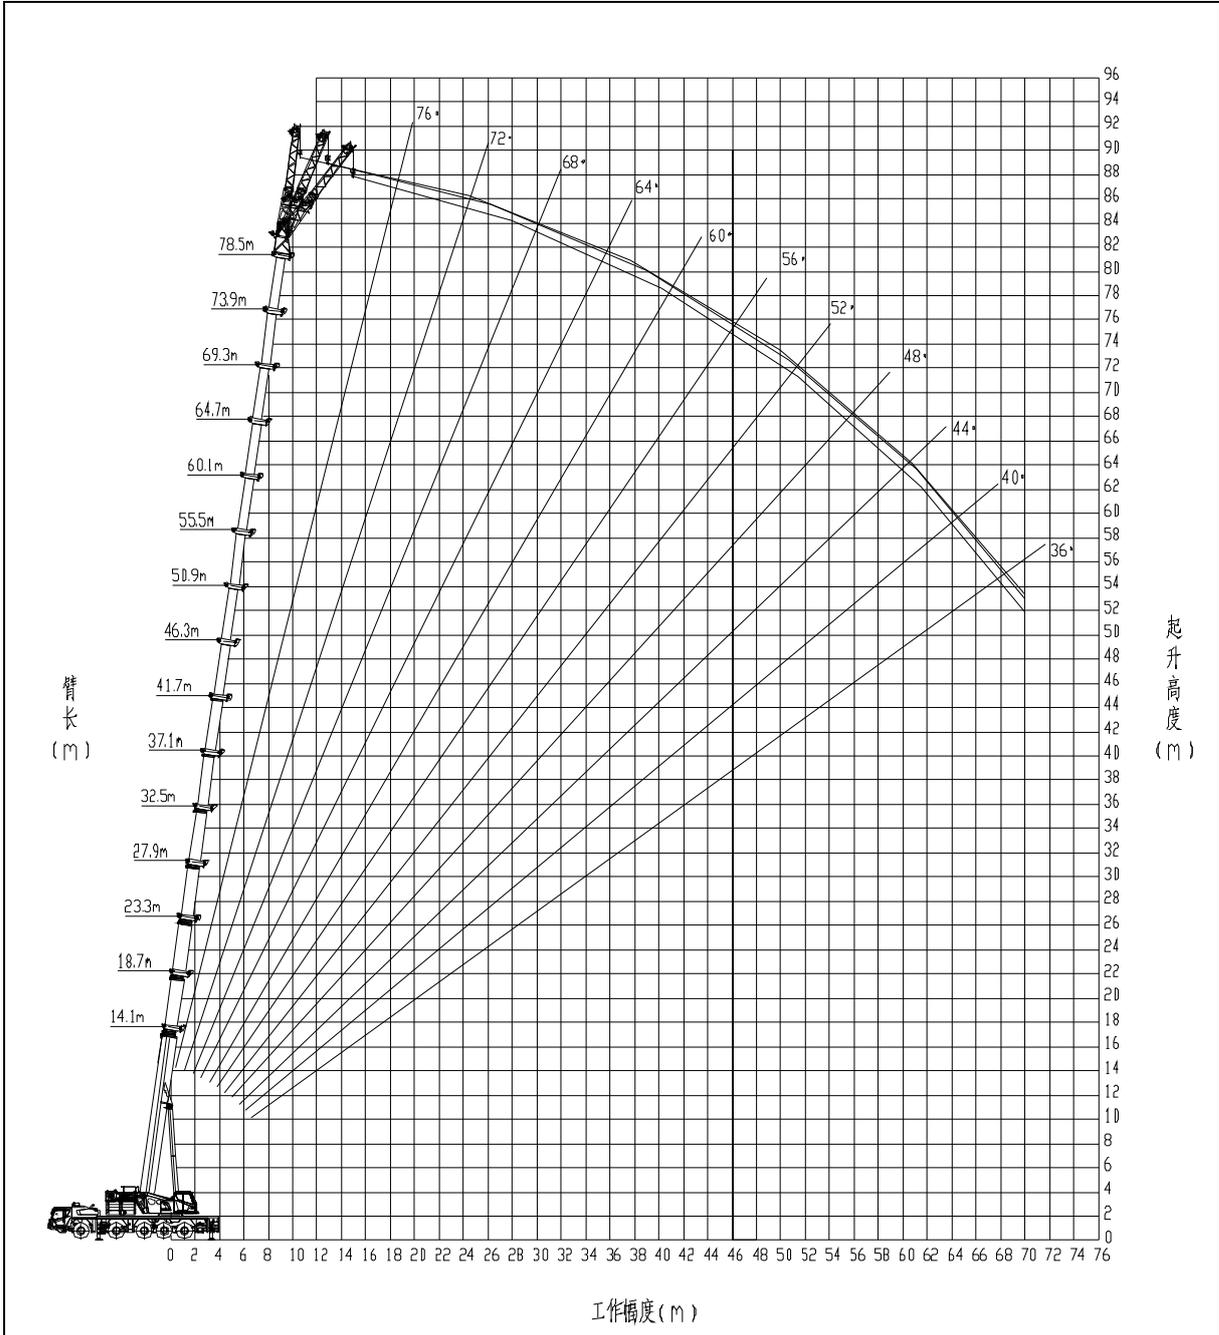

Figure 1-17 78.5 m main boom + jib variant 1 (10.4 m)
b) For the lifting height chart for 78.5 m main boom + jib variant 1 (10.4 m), refer to Figure 1-17.